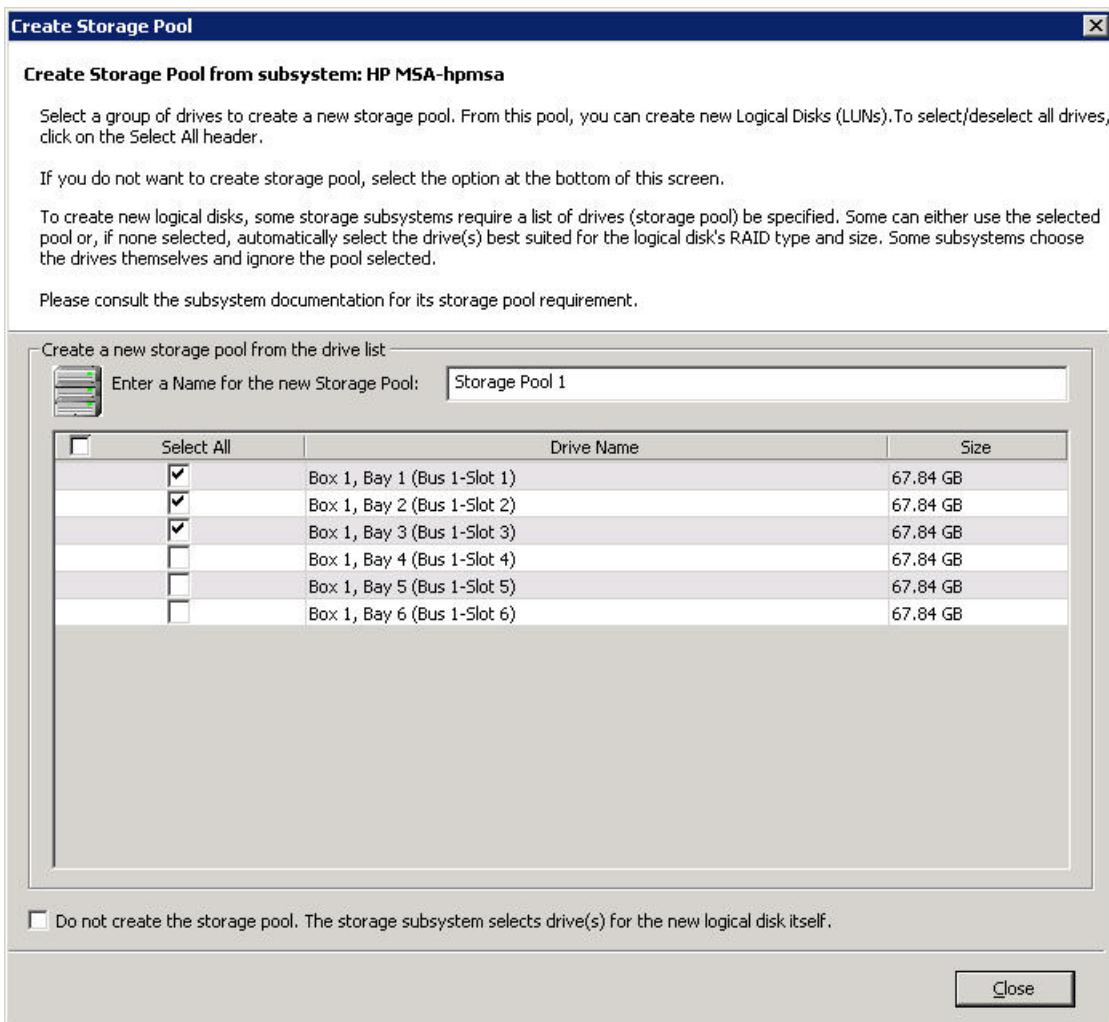
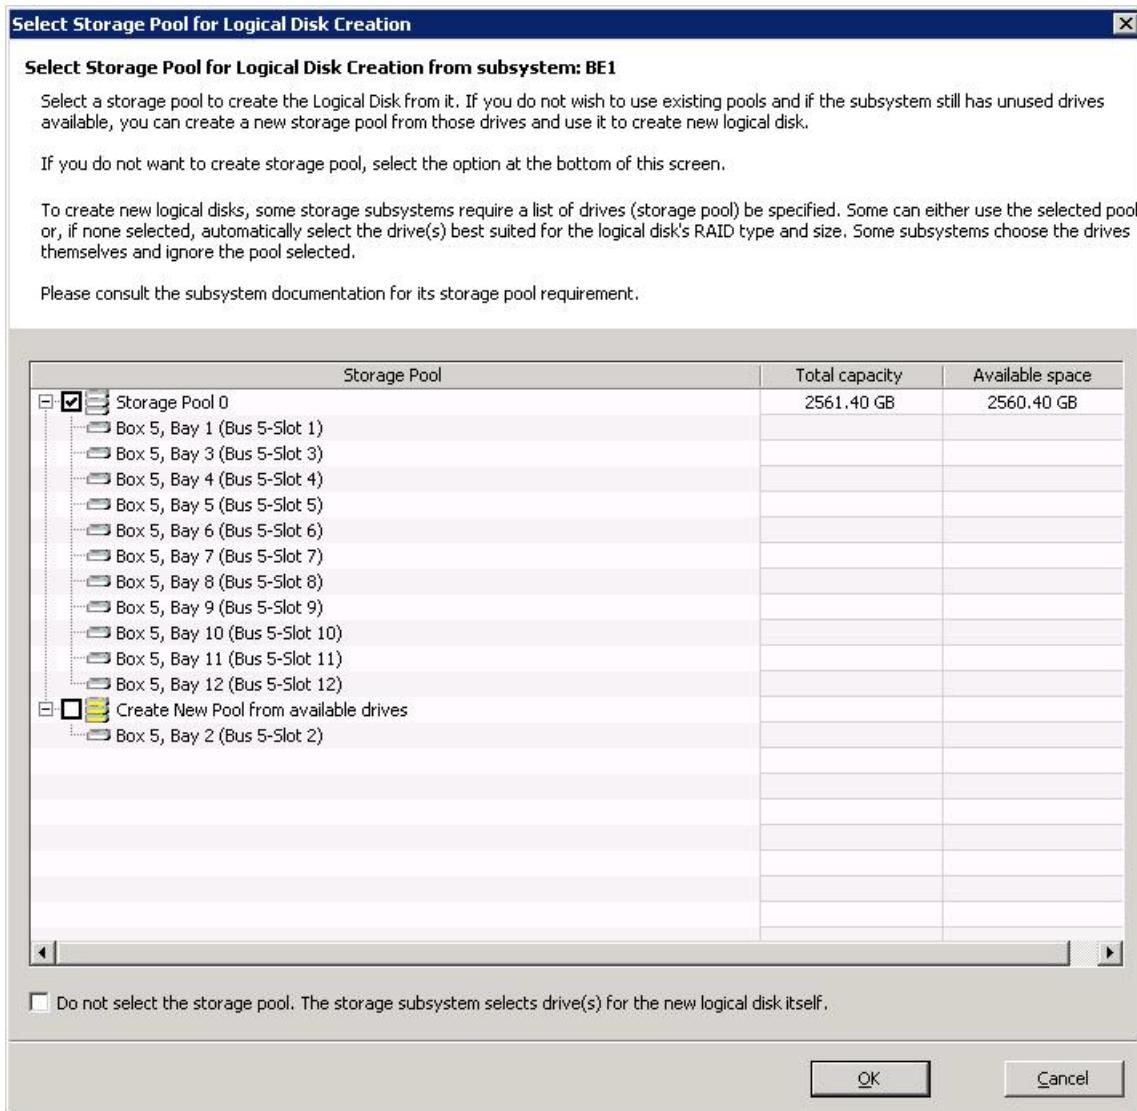

Figure 57 Create Storage Pool dialog box
Figure 58 Select Storage Pool for Logical Disk Creation dialog box
2. If no specific subsystem is selected and if there is more than one subsystem in the SAN, select from the subsystem list the MSA subsystem on which you want the logical disk(s) created, and then click **Next**. If this is the first logical disk created on the subsystem, the Create Storage Pool dialog box opens (Figure 57); continue with step 3. If not, the Select Storage Pool for Logical Disk Creation dialog box opens (Figure 58); continue with step 4.
3. If the Create Storage Pool dialog box (Figure 57) opens, follow these steps to create a storage pool:
4. If the Select Storage Pool for Logical Disk Creation dialog box (Figure 58) opens, complete the following steps: